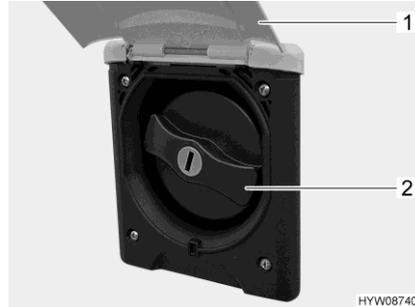

Fig. 128 Cap (drinking water filler neck)
- Swivel the external flap (Fig. 128,1) upwards.
- Turn the blue cap (Fig. 128,2) one quarter turn.